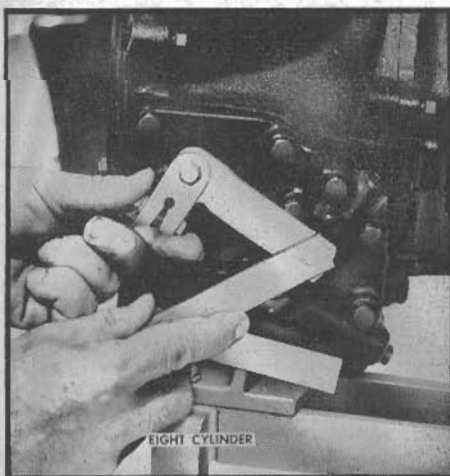

Fig. 23 Use of outer throttle valve lever gauge. 1955-57 Powerglide (V8)
4. Rotate throttle valve control outer lever counterclockwise to the open throttle position (to a definite stop). Hold in this position and with the gauge shown in Fig. 23 set at 2 7/8", measure the distance between the hole in the side cover and hole in throttle lever, Fig. 23. If pins of gauge will enter holes, adjustment of
4. Rotate clamp A counterclockwise to full detent position. Hold in this position and, with gauge shown in Fig. 23 set at 2.88", measure distance between hole in side cover and hole in lever B. If pins of gauge enter holes freely the adjustment is correct. If not, loosen clamp A and adjust as necessary.
4. Rotate clamp F counterclockwise to the full detent position. Hold in this position and, with the gauge shown in Fig. 23 set to 2.88", measure the distance from the hole in the side cover to the hole in lever E. If pins of gauge enter holes freely, adjustment is correct. If not, loosen clamp F and adjust as necessary.